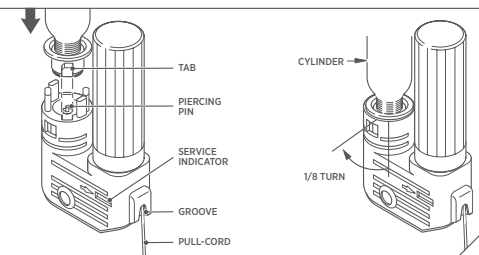

FIGURE 2
10. Raise and hold the lever into the inflator housing. For automatic models, the pull-cord should be situated in the groove (fig. 2). Install a new cylinder/bayonet assembly by engaging bayonet tabs in housing, pushing in then turning clockwise 1/8 turn to a full stop (fig. 2).